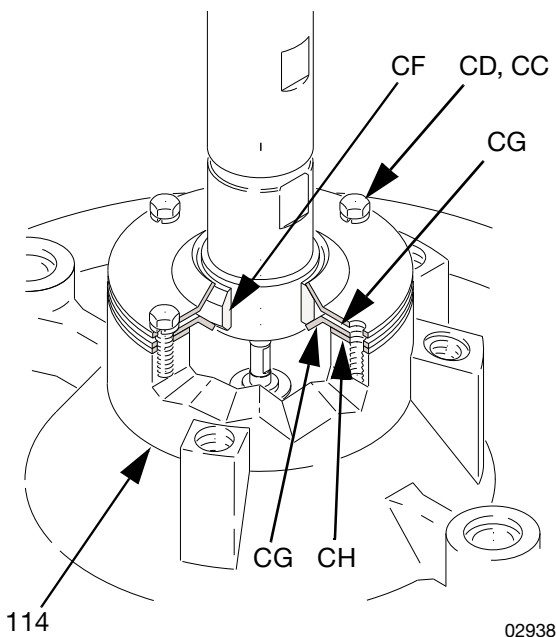

FIG. 11
4. Slide the top seal plate (CG) up over the pump intake valve and push the seal (CF) onto the pump intake housing. Leave the bottom seal plate (CG) and gasket (CH) in place. See FIG. 11.
5. Loosen the mounting bracket setscrews (35), and carefully lower the pump until the intake valve is below the gasket (CH), then tighten the setscrews.
6. Push the seal (CF) down firmly against the bottom seal plate (CG).
7. Align the holes in the top seal plate with the holes in the ram plate (114). Secure tightly to the ram plate with the four screws (CD) and washers (CC).